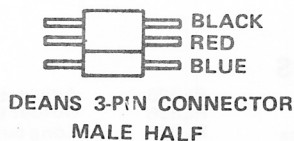

FIG. 7 CONNECTOR WIRING
- () Touch the wires and the soldering iron to their respective pins. Refer to Fig. 7 for proper wiring sequence. The tinned joint will form quickly. Avoid excessive heat which may damage the plug. Perform this operation with the plug halves mated